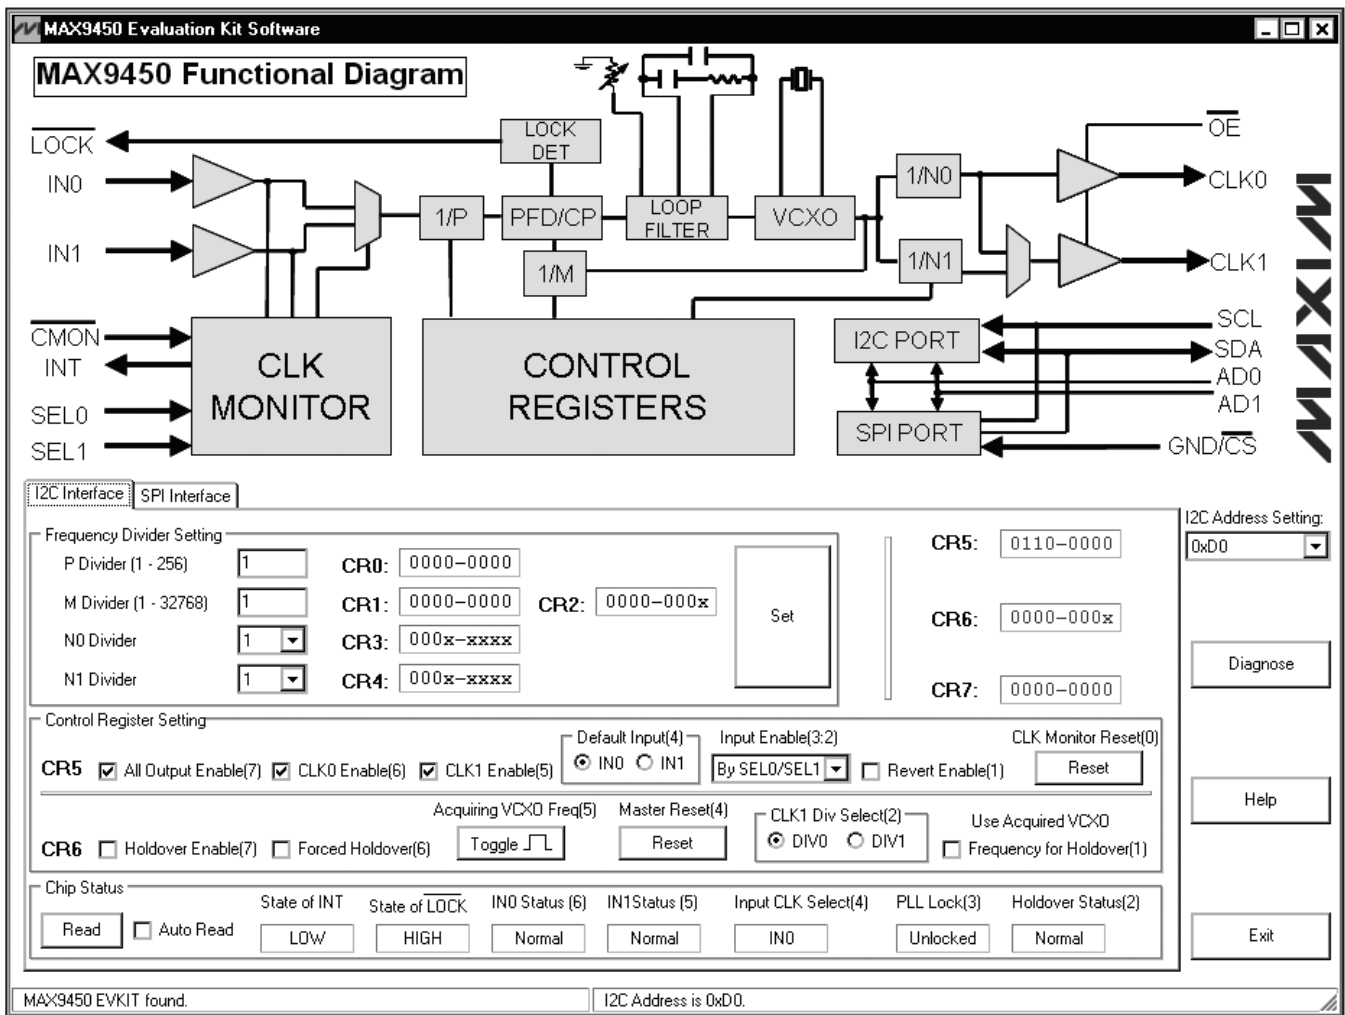

Figure 3. MAX9450 EV Kit Software—I2C Interface Tab
- 15) Follow the instructions on the window and click **OK**. The main software window appears, as shown in Figure 3.